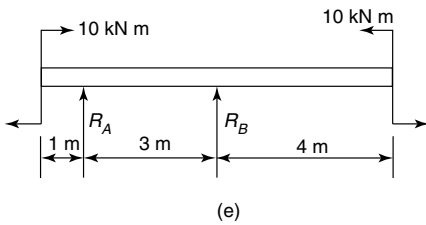

Figure 5.30
5. Figure 5.30  $[R_A = 0, R_B = 0]$